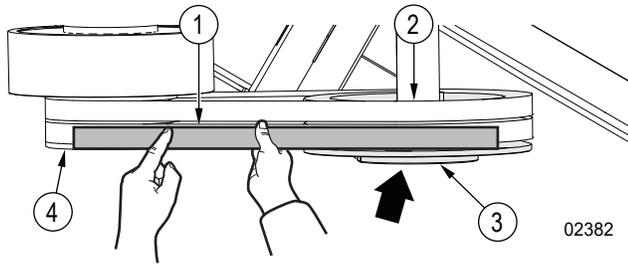

Figure 44—Align the rotor sheave
- If the edge of the engine clutch flywheel is parallel to the straight-edge tool, but is not aligned with the rotor sheave, align the rotor sheave. See *Figure 44 on page 61*. For instructions, see *Align the Rotor Sheave on page 60*.